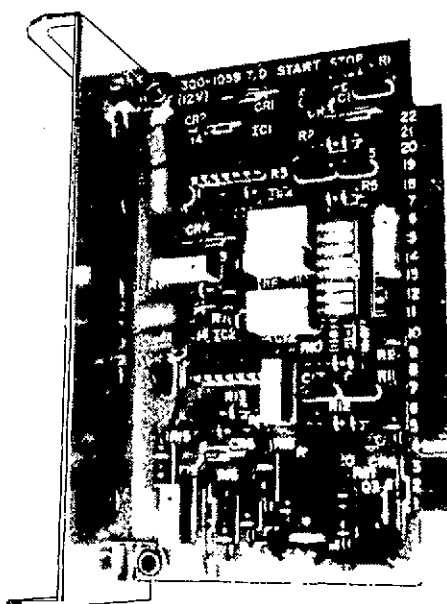

FIGURE 15. START-STOP TIME DELAY (BEGIN SPEC C)
3. Change the switch settings on the side of the printed circuit board for the desired times (Figure 15). Table 1 lists the switch positions for the available time delays.